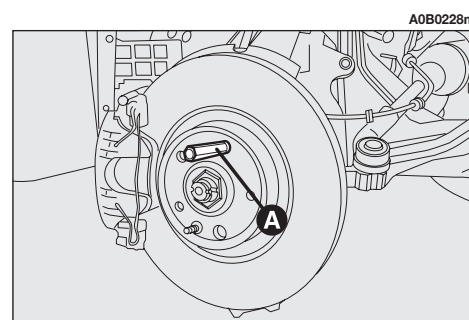

fig. 9
– Tighten the pin (**A-fig. 9**) in one of the fastening bolt holes.
– Remove the centering pin (**A-fig. 9**) and tighten the last bolt.